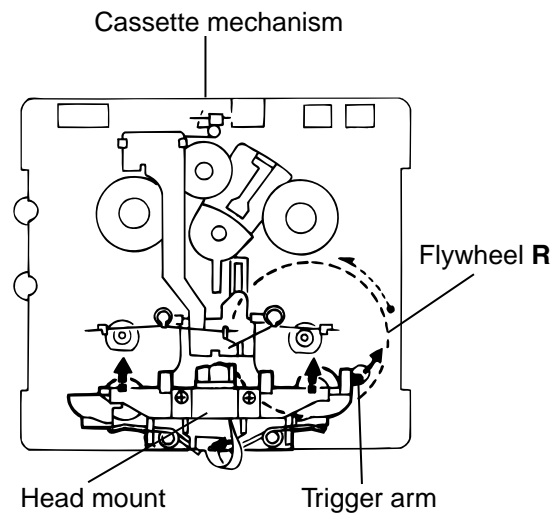

Fig. 1
■ Removing the playback/recording & eraser head (See Figs. 1 and 2)
1. While shifting the trigger arms seen on the right side of the head mount in the arrow direction, turn the flywheel **R** in counterclockwise direction until the head mount has gone out with a click (See Fig. 1).